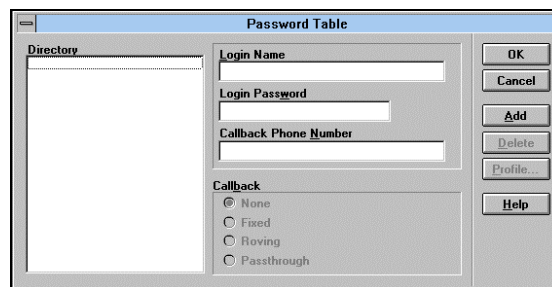

Figure 11-8: The Password Table dialog box.
Carbon Copy will present the Password Table dialog box (see Figure 11-8).
1. In the Password Table dialog box (Figure 11-8) type in a callback number.